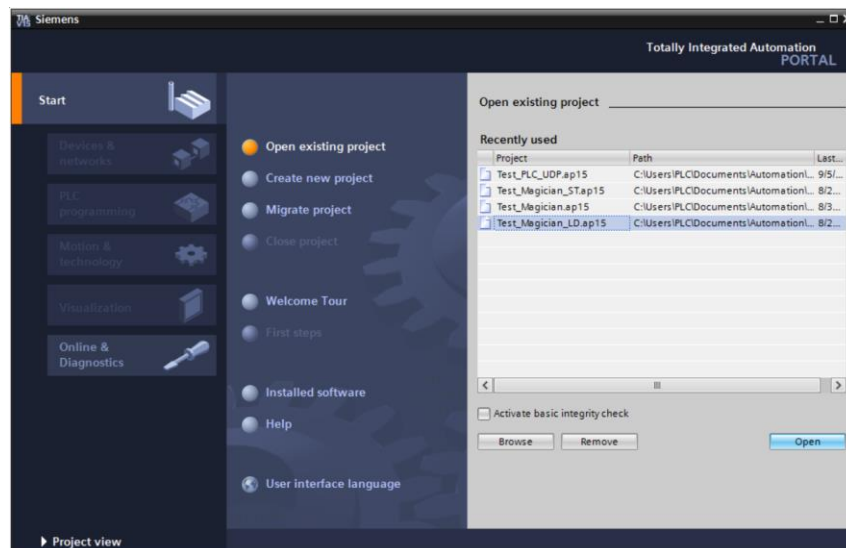

Figure 1.6 Open the project
- Step 2** Click **Browse**, select the directory where the demo is saved and open the file with suffix **.ap15**, as shown in Figure 1.6.